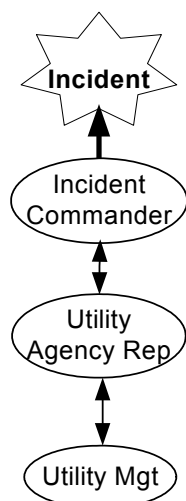

Figure 5: Utility “Agency Representative” Reporting to IC and Independent Utility Management
While working with the Incident Commander (IC), the utility Agency Representative establishes contact with utility management to report conditions and progress. **Figure 5** demonstrates how a utility Agency Representative from an independent utility reports to a law, fire, or public works IC while communicating with his or her utility management about the incident and resource needs. Utility management policies and response plans determine the exact reporting relationship and responsibilities. As a result, reporting relationships and responsibilities may vary by utility.